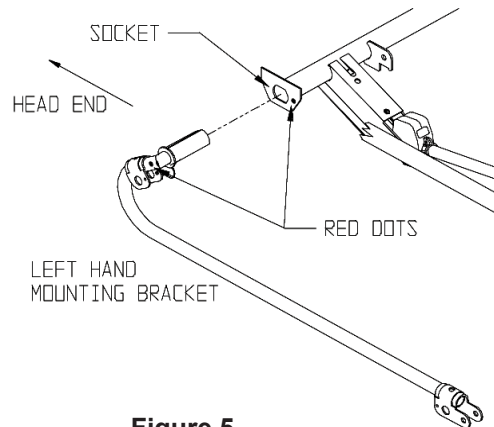

Figure 5
2. Insert the large bracket (using the colored dots for alignment) into the socket near the head of the bed (Figure 5).